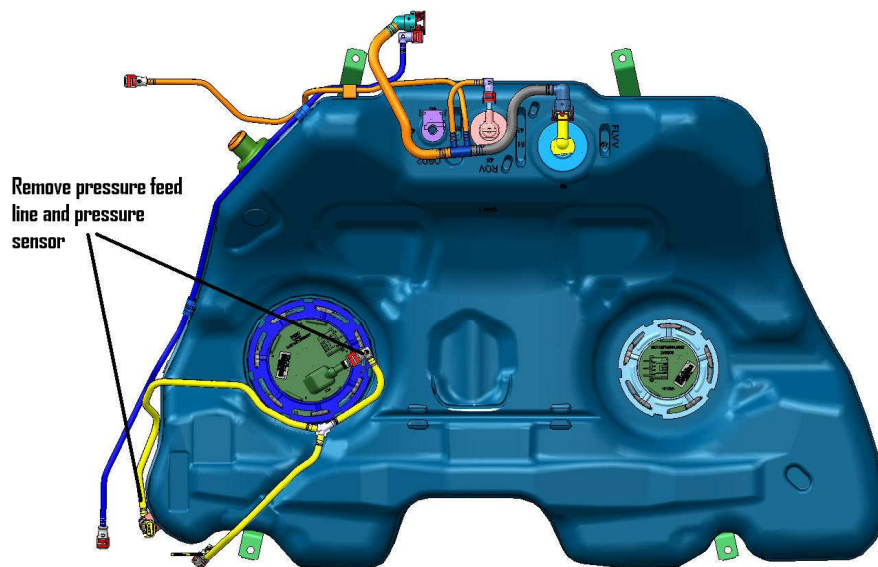

FIGURE 1-2
13. Now remove the pressure feed line and pressure sensor. Also remove the lock ring holding the fuel pump module in place. **NOTE: The fuel pump module is spring loaded and will pop up. FIGURE 1-2**